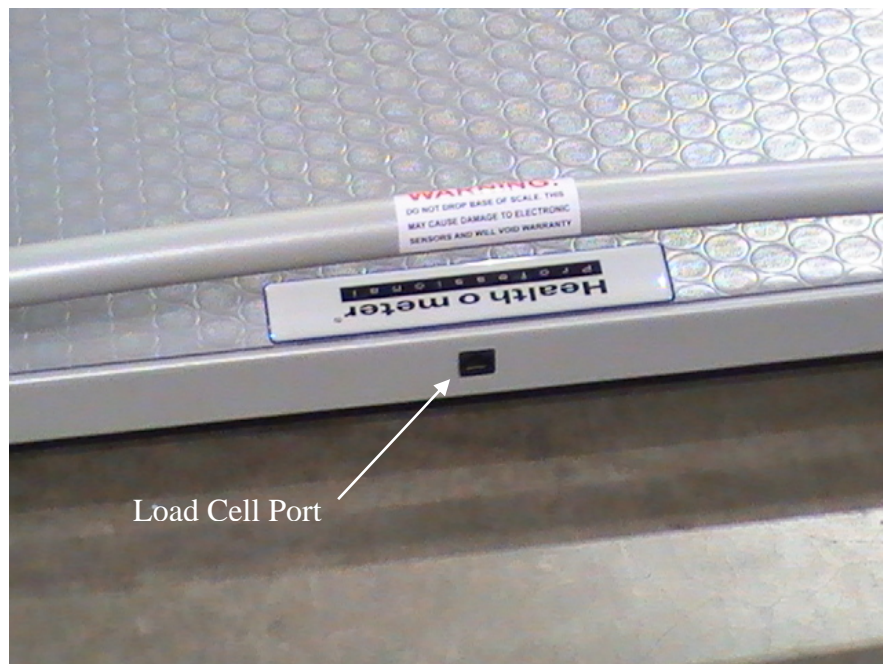

Figure 2
6. Connect the load cell cable to the scale platform by inserting the load cell cable connector into the load cell port (see Figure 2).